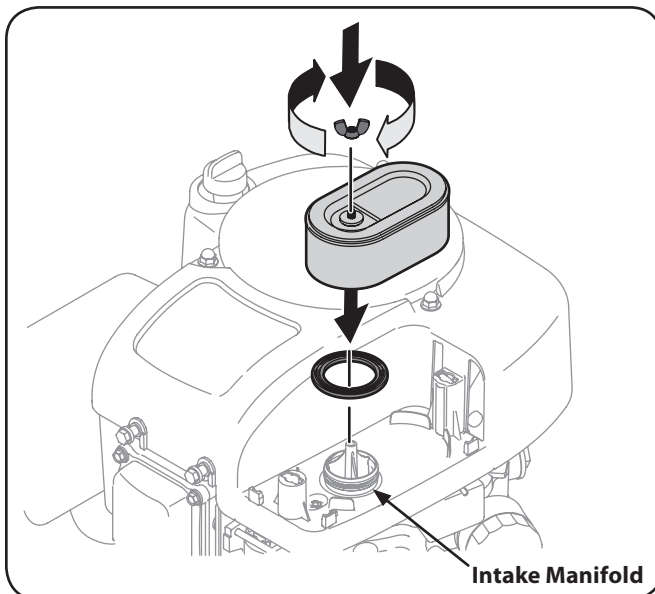

Figure 6-7
4. Attach the new air filter with foam element, aligning the hole in the air filter with the intake manifold. See Figure 6-7. Secure with thumb screw.